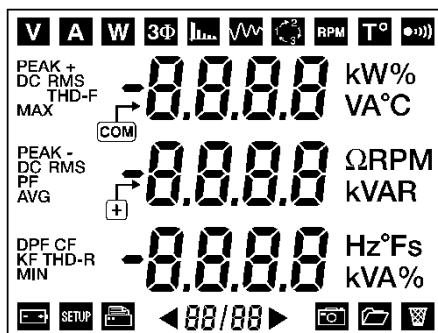

Figure 69: The first screen on start-up.
- When the first screen is displayed (display of 172 segments, see Figure 69, on page 29), pres and hold the yellow key () until a beep is heard.